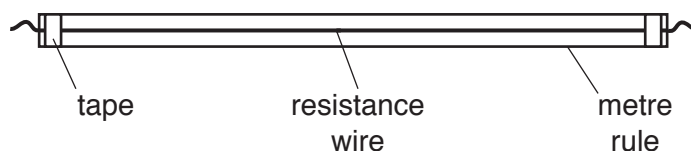

Fig. 1.1
- 1 Each metre rule should have a 105 cm length of resistance wire securely fixed to it with adhesive tape, as shown in Fig. 1.1.